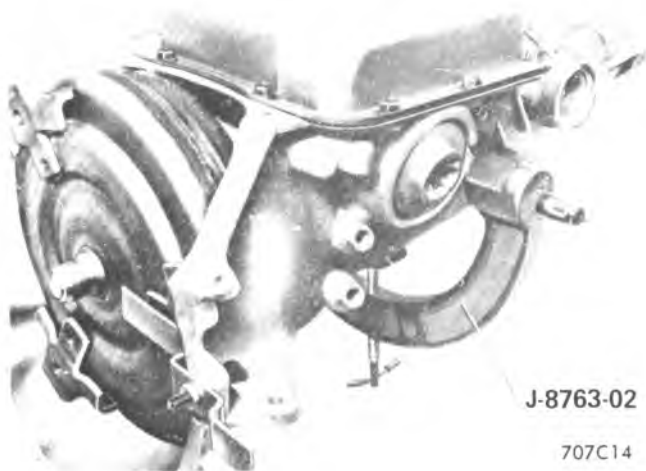

Figure 7A1-15 Transmission in Holding Fixture
2. Installing Holding Fixture, J-8763-02 on transmission and place into Holding Fixture, J-3289-20, with manual shaft facing bench and oil pan side up. (Figure 7A1-15).